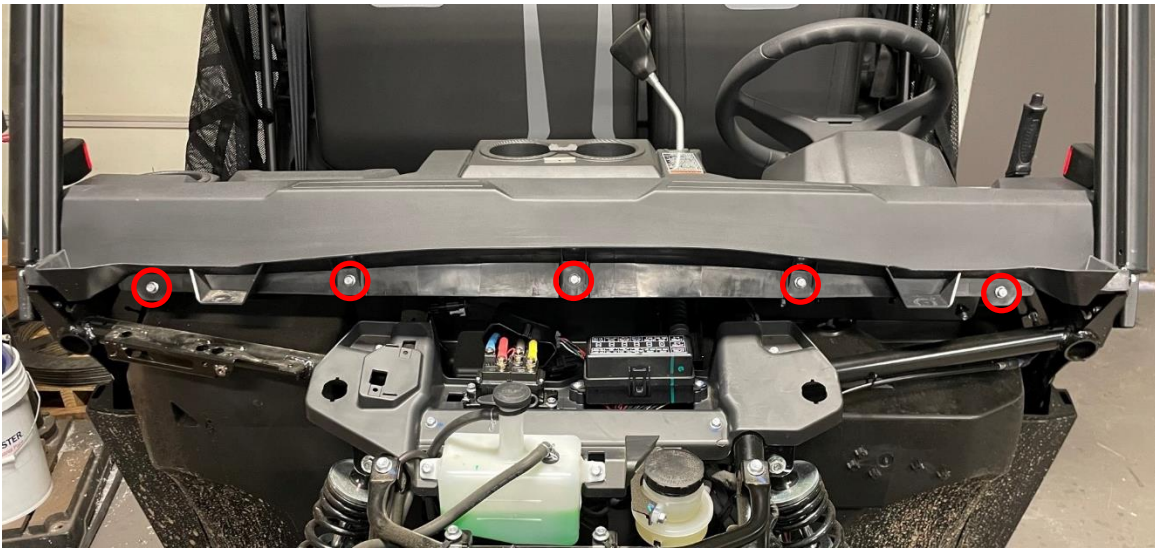

Figure 10: Remove the five dash screws.
12. Remove the five screws from the front of the dash in the hood area to route the chassis wiring harness. See Figure 10.
21. Reinstall the five panel screws, two outer screws, and hood. See Figure 9, Figure 10, and Figure 11.